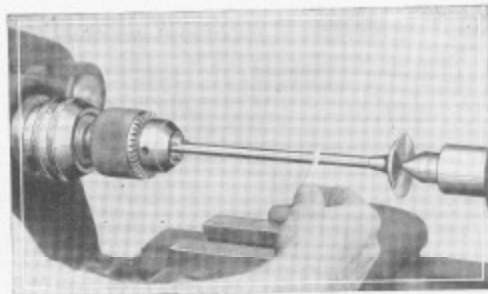

Fig. 29. Testing a Used Valve Stem in the Lathe
**How to Test and Straighten Bent Valve Stems.**—Place the valve in the lathe, as shown in Figure 29 illustrated below. Revolve the valve by hand. If the valve head and stem are not concentric it will readily be apparent to the eye. Mark the "high spot" on the stem with a piece of chalk. Straighten